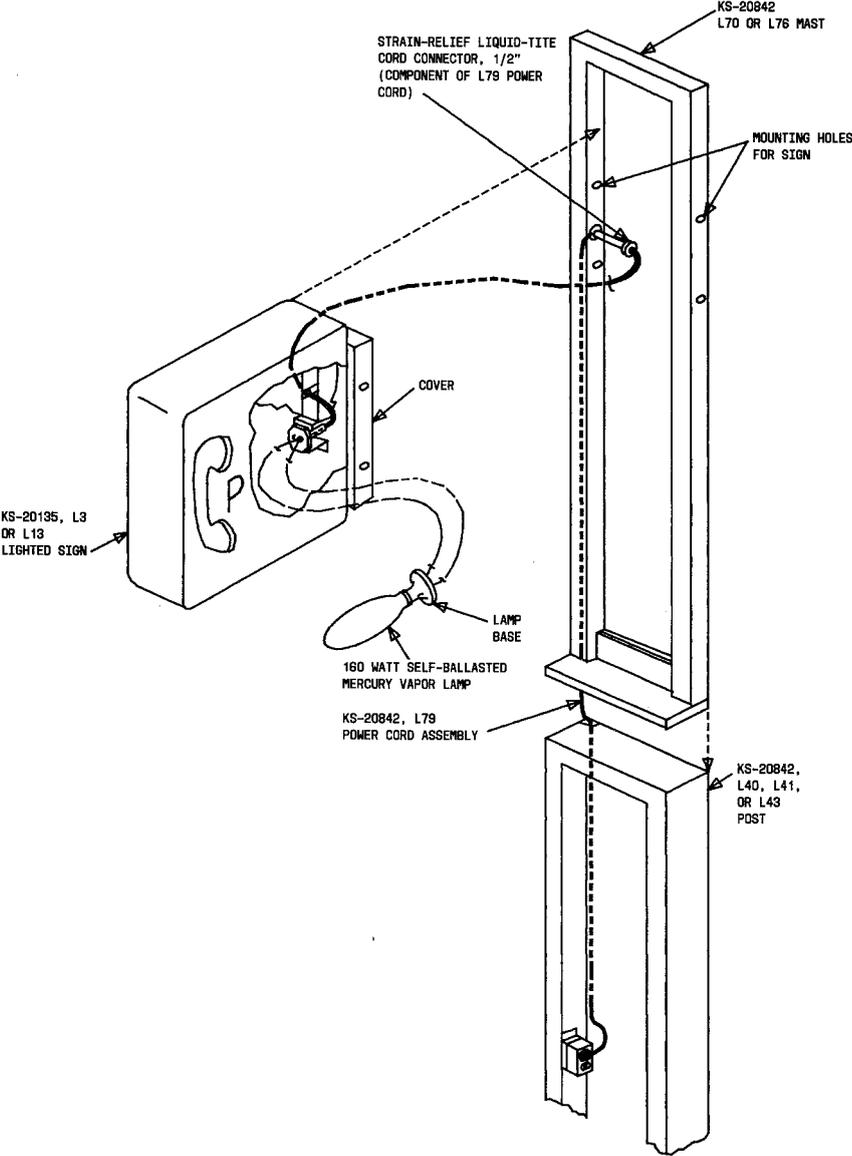

Fig. 42—Installation of KS-20135 Sign
- (a) **KS-20135, List 3 or 13 (Fig. 42):** This sign can be installed on a KS-20842, List 70 or 76 mast.
- (1) Secure mast to post (3.25).
- (2) Slide strain-relief connector over cord and thread into mast. Do not tighten.
- (3) Loosen four PH screws and remove housing cover from sign assembly.
- (4) Remove four 1/4-20 by 5/8 hex head screws from mounting holes in mast.
- (5) Install sign on mast using hardware removed in (4). Ensure that sign housing slides around strain relief connector. Tighten the connector.
- (6) Open the hinged lens assembly to make lamp socket accessible.
- (7) Route power cord through opening in rear of housing.
- (8) Connect (BK) and (W) leads to lamp base and (G) lead to electrical box.
- (9) Install lamp base in electrical box.